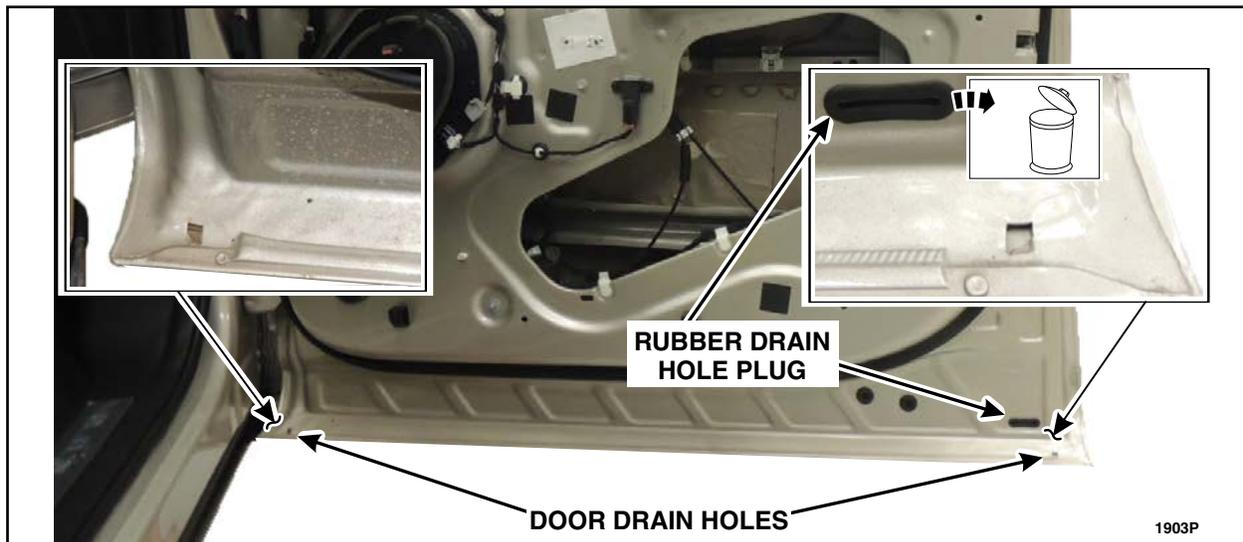

FIGURE 36
7. Remove and discard the rubber drain plug and clean any obstructions, debris, foreign material and residual water from all of the door drain holes using compressed air and a tool such as a plastic trim tool or a zip tie. See Figure 36.